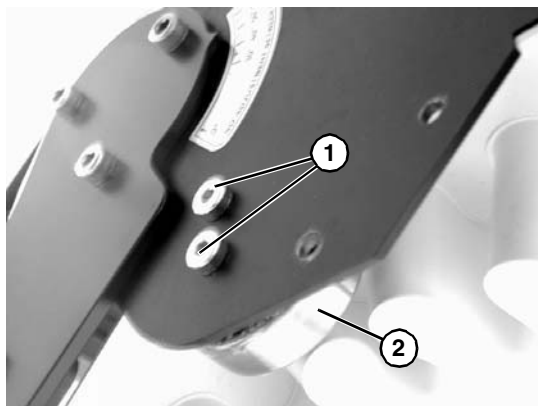

Figure 90
2. Remove screws (**Figure 90, item 1**) and remove worn roller bearing (**Figure 90, item 2**).
3. Replace worn bearing with new bearing, use screws (**Figure 90, item 1**) to attach new bearing.